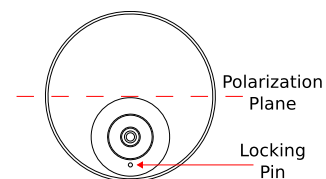

Figure 1.2: Top view of radar antenna and its polarization plane.
- Figure 1.2, shows the polarization plane of the signal emitted from a radar antenna. If the WaveGuide radar is mounted close to a large vertical wall, then the radar should be mounted such that the polarization plane is parallel to the wall. That is to minimize the effect of the wall on the propagation of the signal. Nevertheless, the horizontal distance between the radar and the wall should comply with the previous criteria.